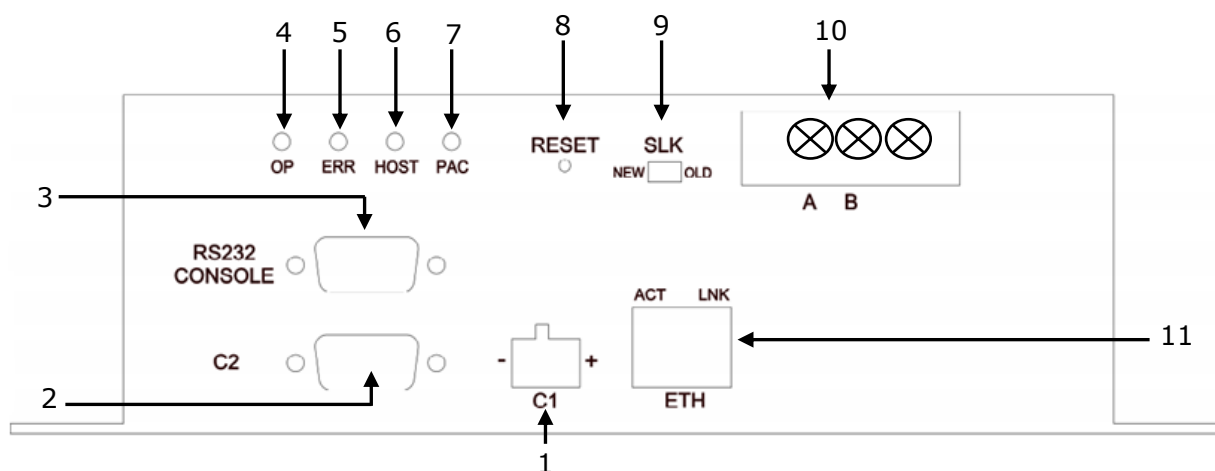

Figure 3.1 IntesisBox® device front view
Connect the communication cable coming from the Modbus RTU network to IntesisBox® device (see **Figure 3.1**). There are 2 existing modes available:
- EIA485 connection: Use the C1 connector (see **Figure 3.1**) if the Modbus interface is a 2-wire EIA485 connector. Connect the + and – to the respective port in the master device and in the IntesisBox® device (polarity matters).
- EIA232 connection: Use the C2 connector (see **Figure 3.1**) if the Modbus interface is point-to-point to one single master.
Connect the communication cable coming from the hub, switch or device of the Modbus Ethernet network to the ETH connector from the IntesisBox® device (see **Figure 3.1**). The cable to be used may vary depending on where the IntesisBox® is being connected:
Connect the IntesisBox® device to the PC serial port using the serial cable provided. One end should be connected to the Console EIA232 port of the IntesisBox® device (see **Figure 3.1**) and the other end to the PC serial port.